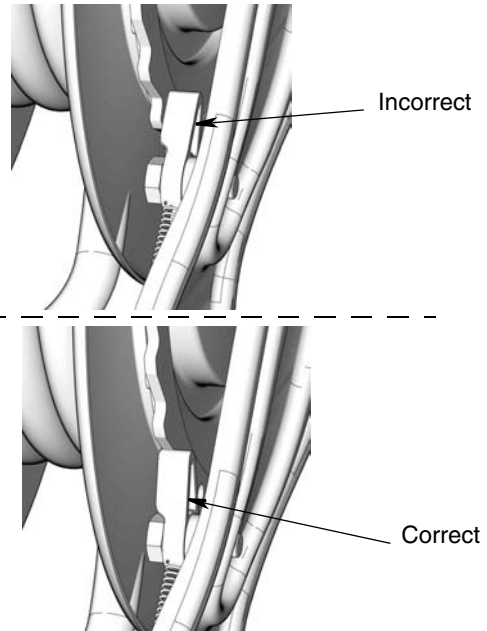

FIG. 13
- Check pawl to make sure it is not wedged (FIG. 13).